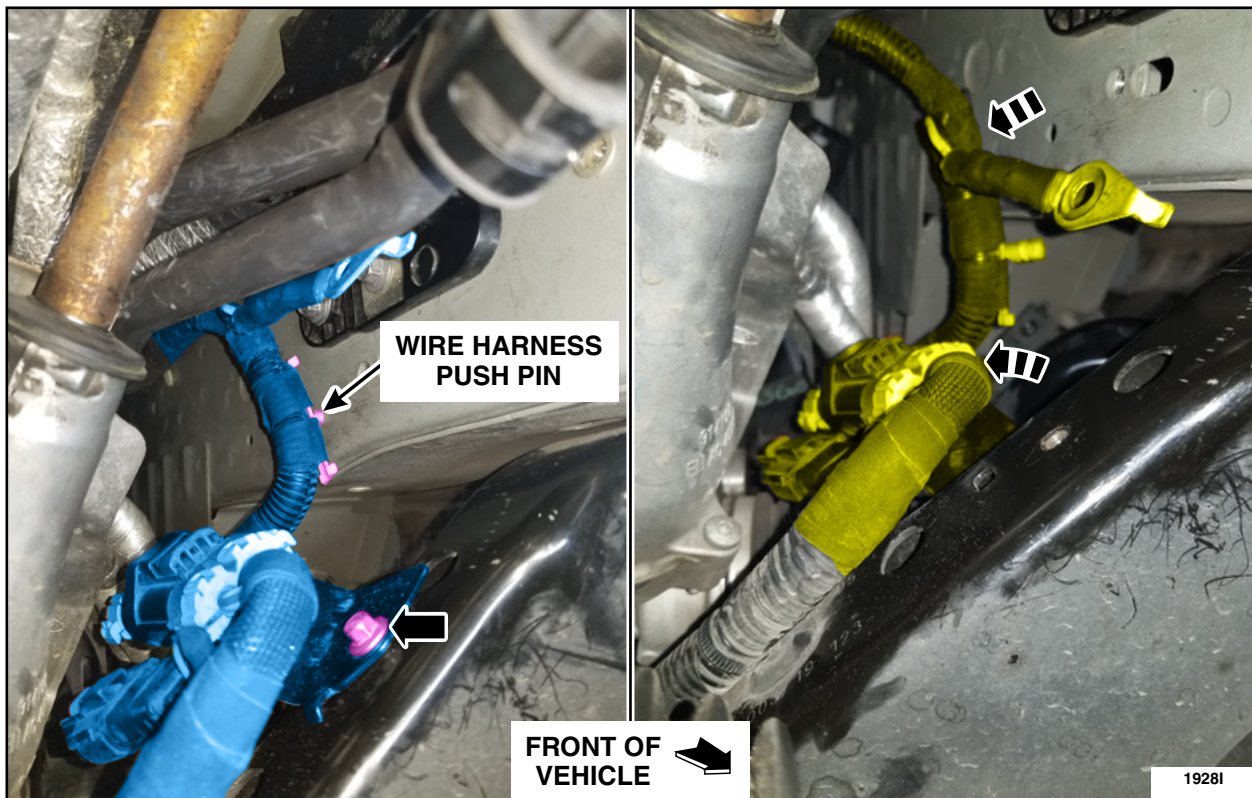

FIGURE 9
11. Remove the wire harness bracket bolt and wire harness push pin. Position aside the wire harness. See Figure 9.